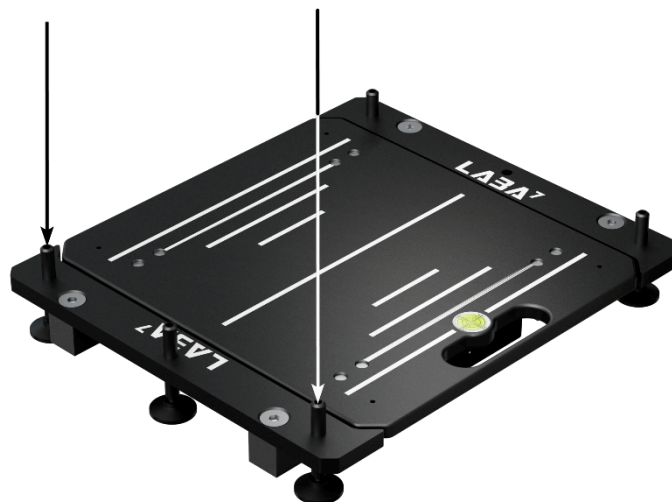

Figure 6
- Adjust the pad so the laser points to the same spot on every leveling pin. Adjusting is done by turning 3 leveling feet with an allen key. While doing this step, on one side of the pad only middle foot is used, so unscrew the side ones to the point they are not touching the ground. Which feet to unscrew is shown in Fig. 6.
- After leveling is done, turn those unscrewed feet, located on the sides of the pad (shown in Fig.6) hand tight, until it touches the ground and unscrew the middle one, which was used for leveling, to the point it will not touch the ground.